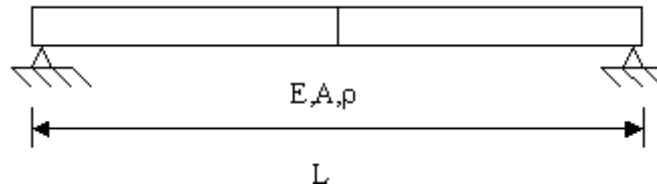

Figure 3:
7. Using one element to idealize half of the beam as shown in figure 3. Find the lowest four mode natural frequencies. Compare the results with exact solutions.